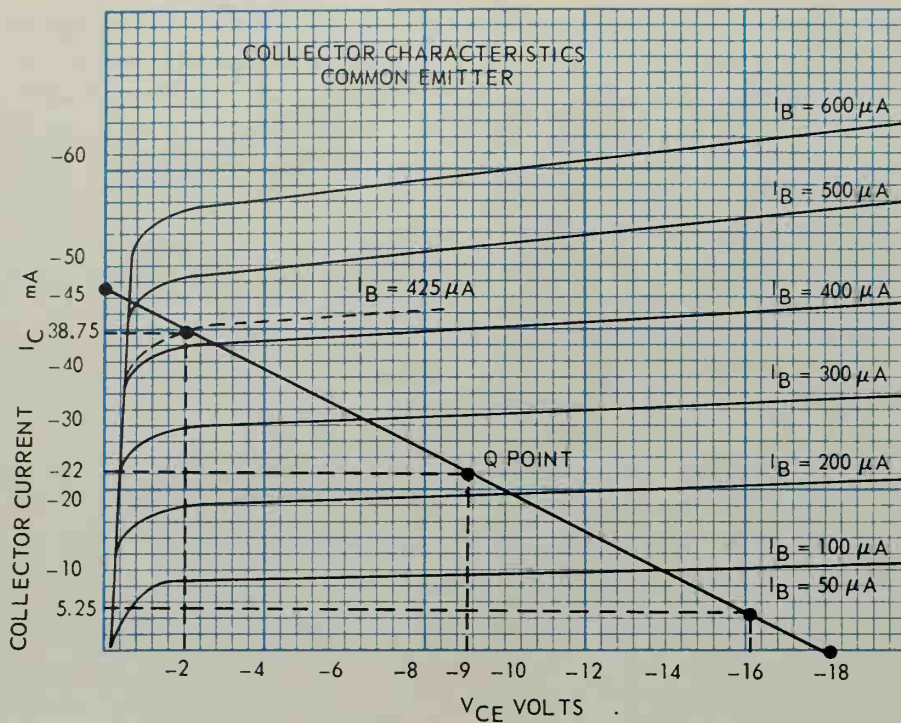
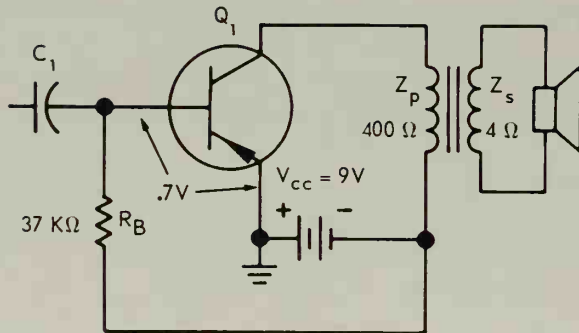

Fig. 15-16. The characteristic curves of the power transistor used in text problem.
Fig. 15-17. The circuit used for designing the power amplifier in the text.
PROBLEM: A power amplifier is desired which will supply 50 milliwatts of power to a 4 ohm speaker. A matching transformer with an efficiency of 85 percent will be used. A battery of 9 volts is available. A 30 percent collector efficiency is desired with maximum signal applied. Characteristic curves for the transistor are shown in Fig. 15-16. The circuit is diagrammed in Fig. 15-17.
With a collector voltage V_{CC} of 9 volts, the very maximum swing of a signal could not exceed 18 volts, which would cover the entire length of any load line. See Fig. 15-16. Under these conditions, the efficiency would be 50 percent, which is the maximum possible. But the curves are unevenly spaced and distortion of
These points are now located on the curves in Fig. 15-16, along the V_{CE} in volts. Perpendicular projections from these voltage points to the load line will also show the current swing ΔI_c .
10. Looking at Fig. 15-16 again, the change in base current ΔI_b may be approximated. Base current curves do not run through the maximum excursion points on the load line, but they can be quite accurately determined: